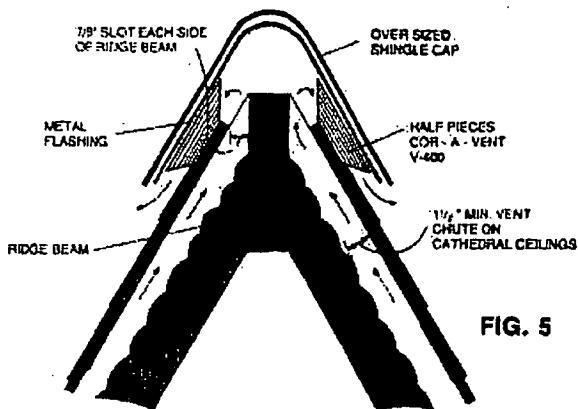

FIG. 5
* Note: This application would apply anytime the angle of the roof pitch necessitates separating Cor-A-Vent into ½ pieces in order to allow sufficient air passage for the vent to work, $\frac{1}{8}$ " minimum airway each side of ridge beam. See Fig. 5.
- (2.) Inspect the ridge slot from the attic side to see if all the nails have penetrated the roof sheathing. If the slot has been cut too wide for proper nailing, remove the cap shingles and vent and install as shown for "Steep Pitches and Wide Ridge Beams" on page 5, figure 5.